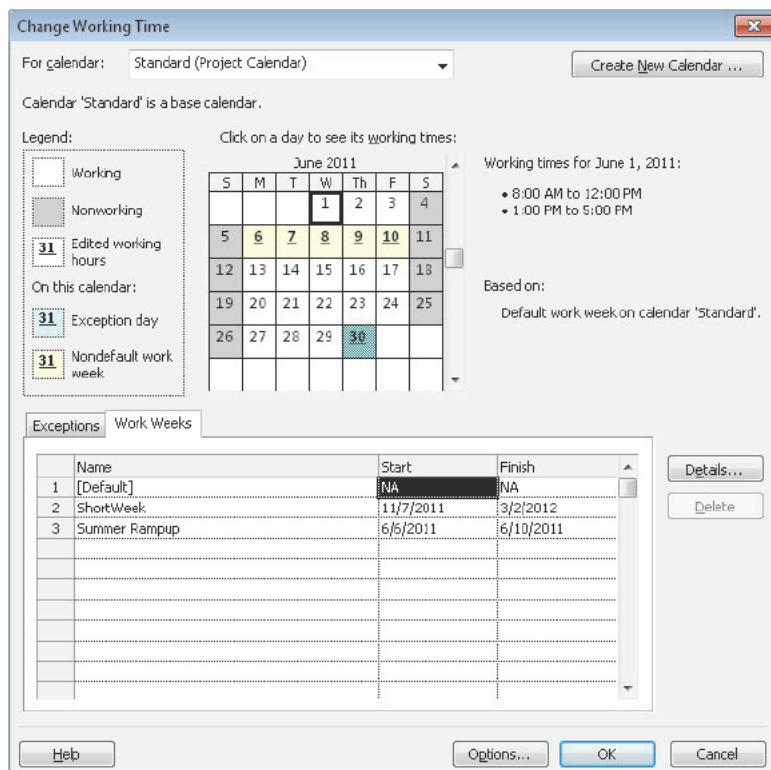

FIGURE 6-14 Project displays working days in white; nonworking days are gray and underlined; and nonstandard working days are shaded and underlined.
- *The Standard calendar* that comes with Project applies to every project and task you create and every resource you assign. You can modify the Standard calendar to reflect your organization's holidays and time off that applies to everyone, such as a two-week closure at a manufacturing plant, shown in Figure 6-14.